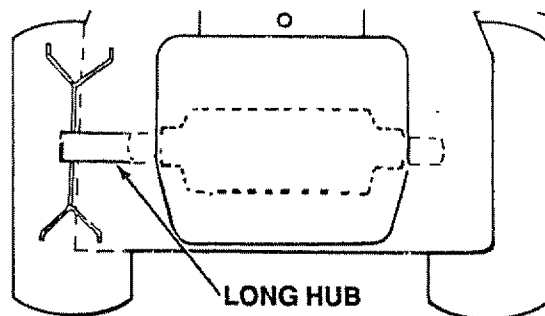

FIGURE 12
- Removing wheel for tire repair (Fig. 12).
**WHEN REPLACING REAR WHEELS ON THE TRACTOR, THEY MUST BE MOUNTED WITH THE LONG HUB SIDE TOWARD THE CENTER OF THE TRACTOR. INCORRECT INSTALLATION COULD AFFECT LATERAL STABILITY (FIG. 12).**